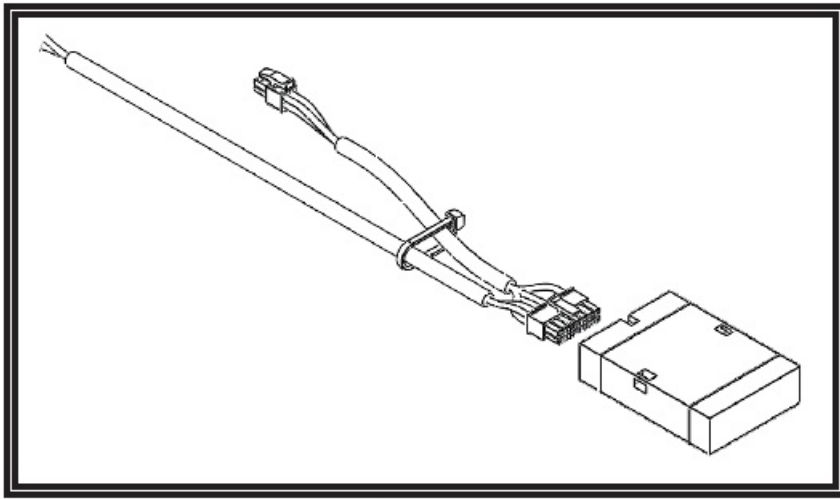

Figure 7
- Step 1. Route the remaining, unused OBDII Harness connectors to the location where the OBDII Device will be mounted. The OBDII Device must be mounted near another Matrix® compatible device with a 4 Pin AUX connector. Confirm that the cable length is sufficient to reach both required locations. See FIGURE 7 for further details.